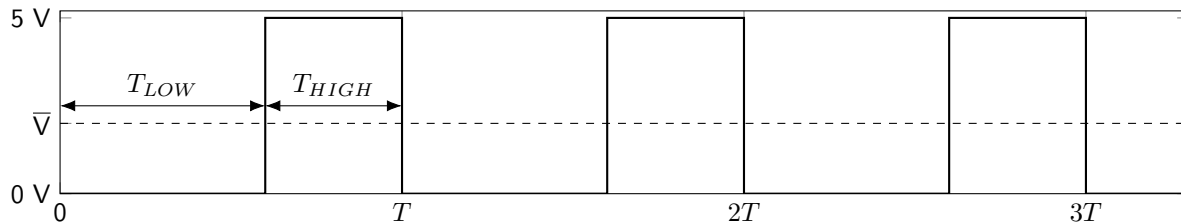

Figure 7.1: An example PWM waveform, showing the high period, low period, total period, and average voltage.
An example PWM waveform is shown in figure 7.1. Shown in the graph are the high period of the wave (T_{HIGH}), the low period of the wave (T_{LOW}), the total period of the wave (T), and the average voltage of the wave (\bar{V}).